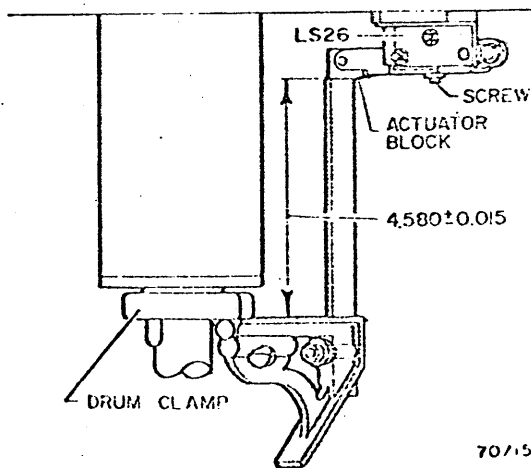

Fig. 3-156. Drum Interlock Switch (LS26) Adjustment
1. Set the combination square to 4.580. Position the square as shown in Fig. 3-156, and check that the switch actuates.